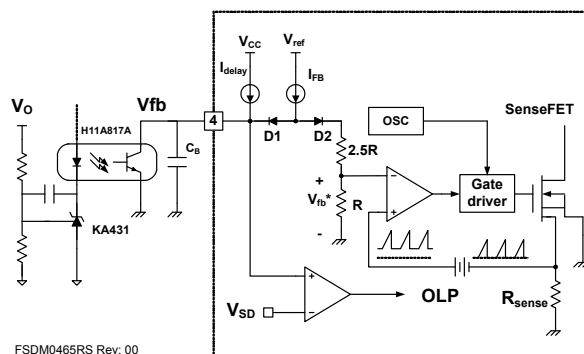

Figure 18. Pulse width modulation (PWM) circuit
**2. Feedback Control:** FSDM0465RS employs current mode control, as shown in Figure 18. An opto-coupler (such as the H11A817A) and shunt regulator (such as the KA431) are typically used to implement the feedback network. Comparing the feedback voltage with the voltage across the  $R_{sense}$  resistor plus an offset voltage makes it possible to control the switching duty cycle. When the reference pin voltage of the KA431 exceeds the internal reference voltage of 2.5V, the H11A817A LED current increases, thus pulling down the feedback voltage and reducing the duty cycle. This event typically happens when the input voltage is increased or the output load is decreased.
**2.1 Pulse-by-Pulse Current Limit:** Because current mode control is employed, the peak current through the SenseFET is limited by the inverting input of PWM comparator ( $V_{fb}^*$ ) as shown in Figure 18. Assuming that the 0.9mA current source flows only through the internal resistor ( $2.5R + R = 2.8k\Omega$ ), the cathode voltage of diode D2 is about 2.5V. Since D1 is blocked when the feedback voltage ( $V_{fb}$ ) exceeds 2.5V, the maximum voltage of the cathode of D2 is clamped at this voltage, thus clamping  $V_{fb}^*$ . Therefore, the peak value of the current through the SenseFET is limited.